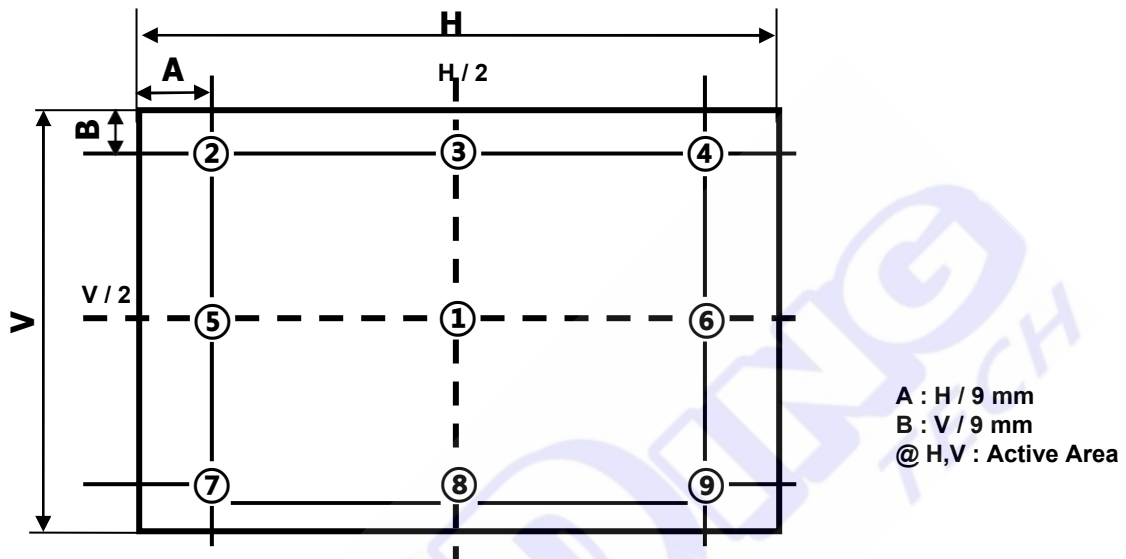

FIG. 3 9 Points for Luminance Measure
2. Surface luminance are determined after the unit has been 'ON' and 1 Hour after lighting the backlight in a dark environment at $25 \pm 2^\circ \text{C}$. Surface luminance is the luminance value at center 1-point across the LCD surface 50cm from the surface with all pixels displaying white. For more information see the FIG. 3.
For more information, see the FIG. 3.